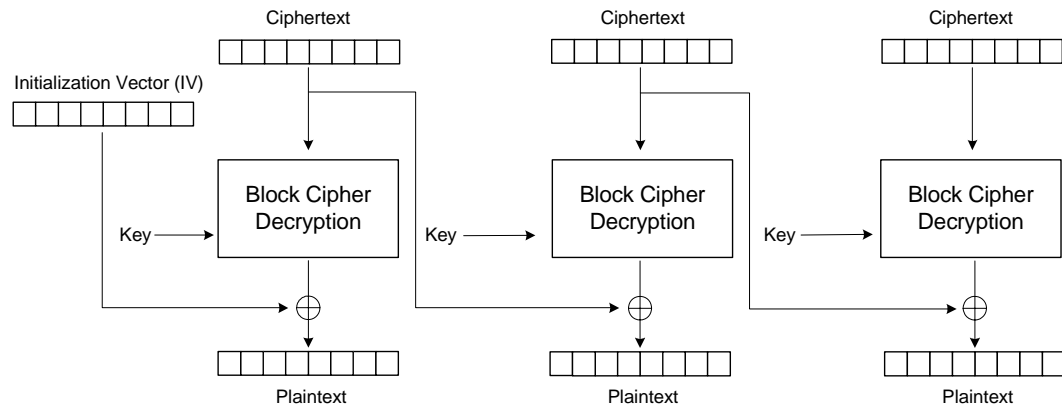

Figure 53. Cipher Block Chaining (CBC) Mode Decryption
Decryption (shown in Figure 53) works in a similar manner, where the cipher text is first decrypted and then XORed with the previous ciphertext. For the first encryption/decryption operation, an initialization vector (IV) is used to seed the operation. The IV must be the same for both the encryption and decryption steps; otherwise, decrypted data will not match the original plaintext.